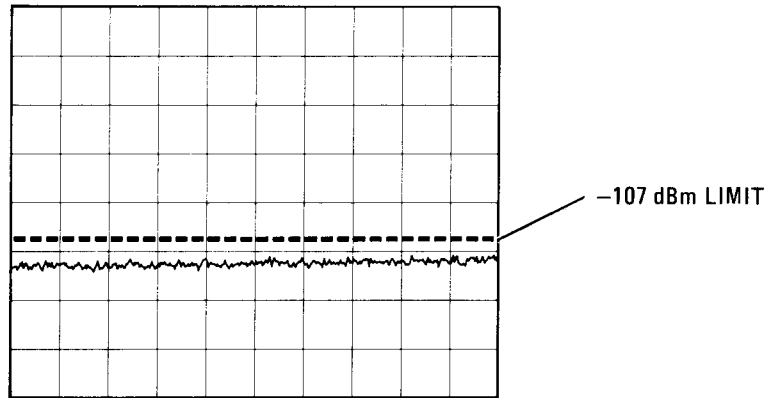

Figure 4-13. Average Noise Level Measurement
- 001: Change '-107 dBm' to '-100 dBm' throughout procedure and in Figure 4-13.
- 002: Change '-107 dBm' to '-53 dBmV' throughout procedure and in Figure 4-13.